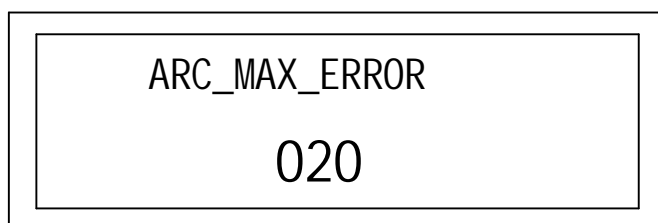

Fig.11: ARC_MAX_ERROR set up.
6)、ARC_MAX_ERROR: ARC_MAX_ERROR set up. Fig.11.